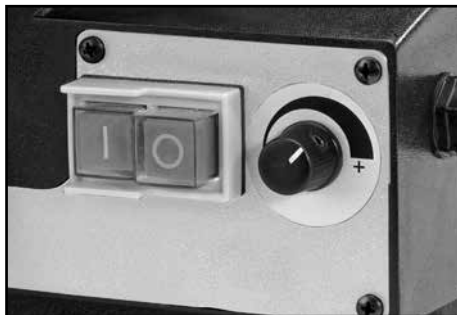

FIG. 3
9.2 NO-VOLT ON/OFF SWITCH – FIG. 3